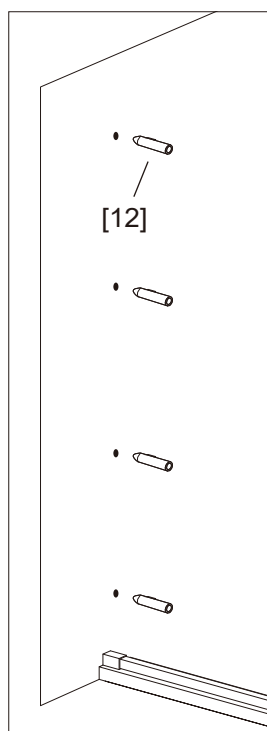

Fig 2.3
4. Install the **Plugs #1 [12]** and secure the **Wall Profile [01]** with **Screws [11]**. (Fig 2.3, Fig 2.4)